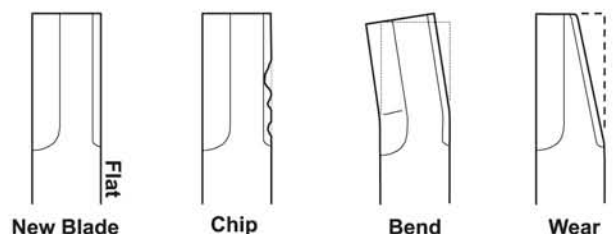
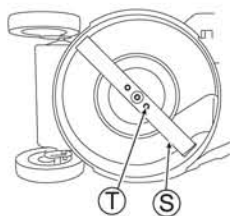

Fig. 34
Fig. 35
1. Confirm that there is no chip, bend, or wear with Blade (S). (See Fig. 34)
2. If Blade (S) or its mounting bolts (T) are "worn", "broken" or "deformed", exchange with new one(s) specified by us.
3. Confirm that Blade mounting bolts (T) are tightened by the specified torque. (See Fig. 35)
2. Fully tighten Blade mounting bolts (T) with hand.
4. Confirm that Blade mounting bolts (T) are tightened by the specified torque. (See Fig. 35)